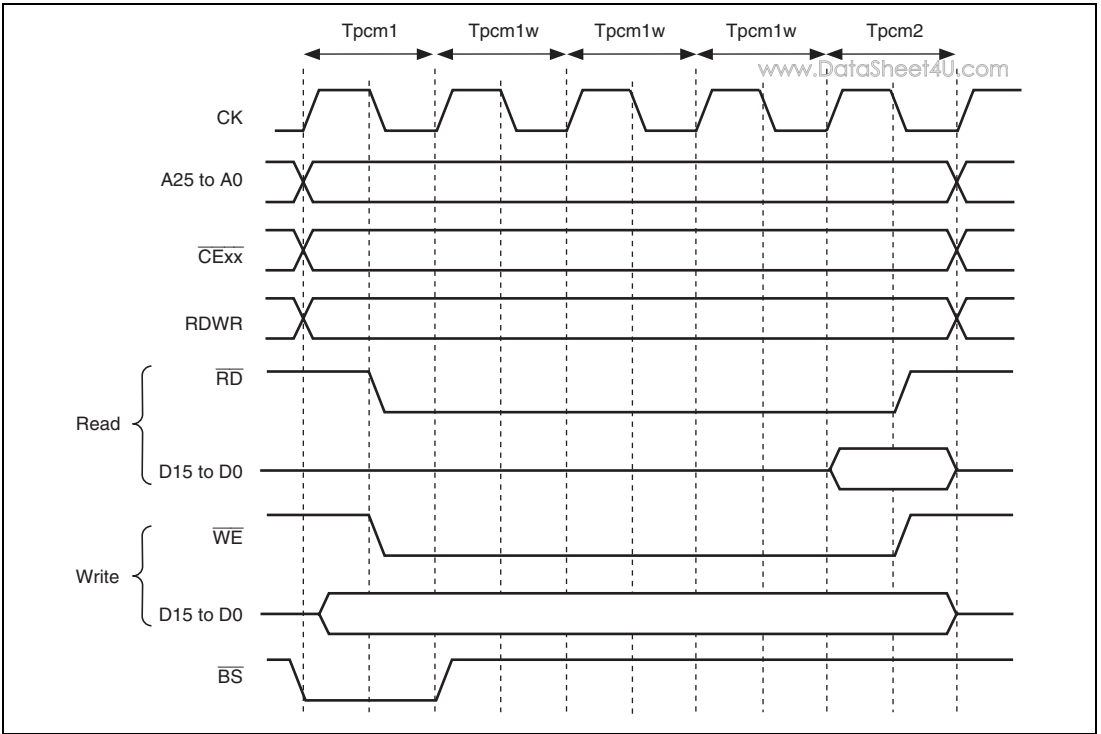
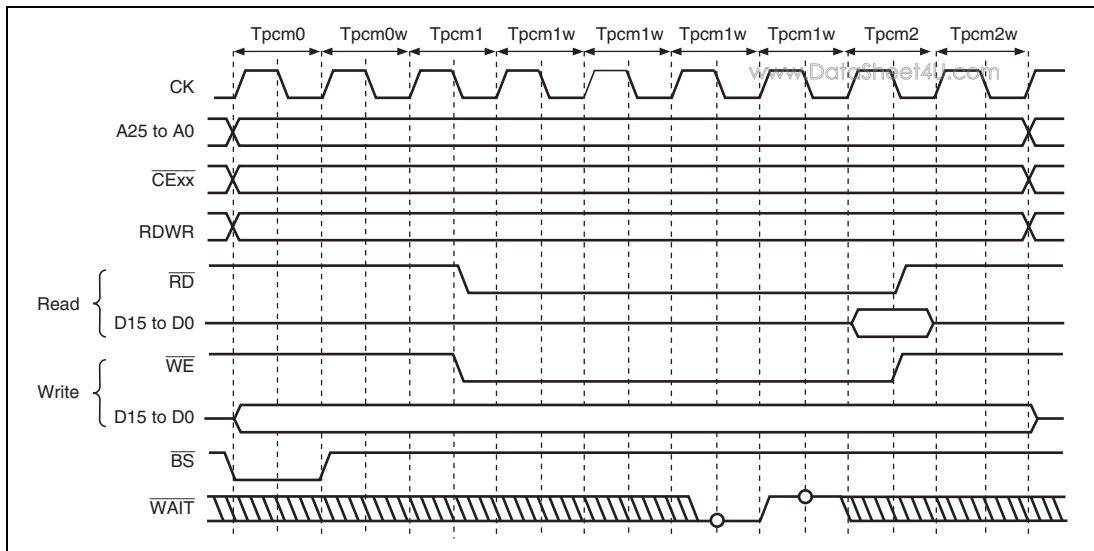

Figure 9.38 Basic Access Timing for PCMCIA Memory Card Interface
Figure 9.39 Wait Timing for PCMCIA Memory Card Interface
Basic Timing for Memory Card Interface: Figure 9.38 shows the basic timing of the PCMCIA IC memory card interface. If areas 5 and 6 are specified as the PCMCIA interface, accessing the common memory areas in areas 5 and 6 automatically accesses the bus with the IC memory card interface. If the external bus frequency (CK) increases, the setup times and hold times for the address pins (A25 to A0), card enable signals ($\overline{CE1A}$, $\overline{CE1B}$, $\overline{CE2A}$, $\overline{CE2B}$), and write data (D15 to D0) to the \overline{RD} and \overline{WE} signals become insufficient. To prevent this error, this LSI enables the setup times and hold times for areas 5 and 6 to be specified independently, using CS5WCR and CS6WCR. In the PCMCIA interface, as in the normal space interface, a software wait or hardware wait using the \overline{WAIT} pin can be inserted. Figure 9.39 shows the PCMCIA memory bus wait timing.